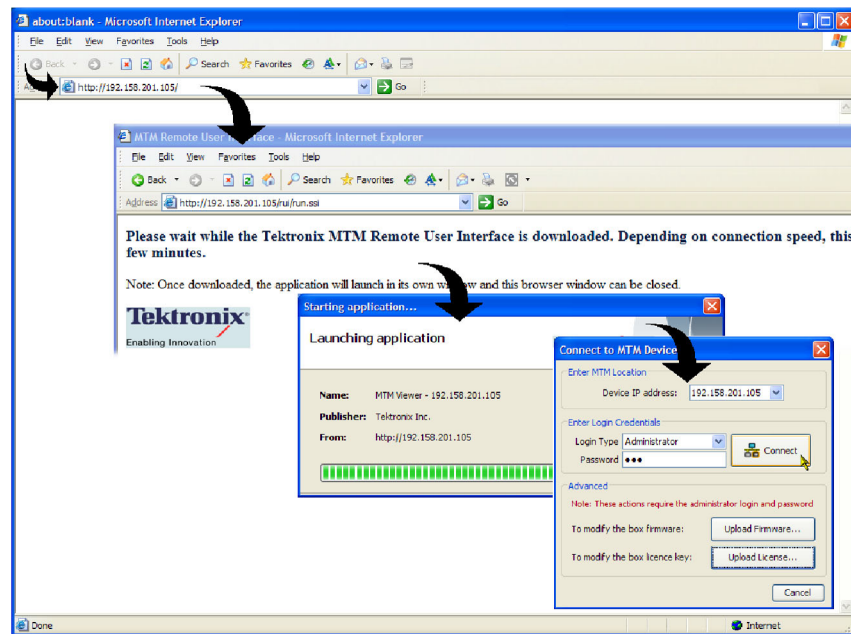

Figure 27: Logging on to MTM400A monitor (RUI v3.0 and above)
3. After the Java applet is downloaded, the Connect to MTM Device dialog box is displayed. (See Figure 27.)